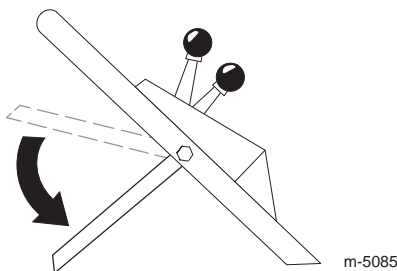

Figure 11
8. Move the control bar down to its lowest position (Fig. 11).
3. Push the control bar (Fig. 11) down to its lowest position.